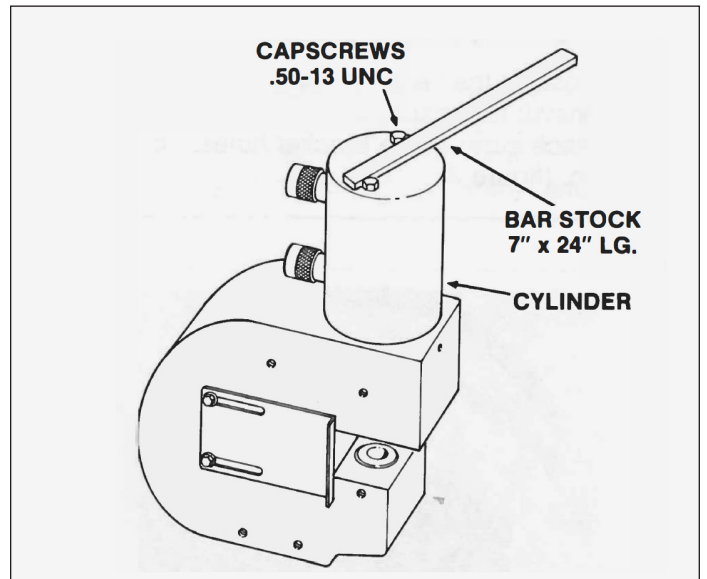

Figure 7
- c. Removing the cylinder from the punch frame requires a strap wrench or similar device to loosen the cylinder. Turn cylinder counterclockwise to remove it. If a wrench is not available, install 2 - .500-13UNC x 1½" lg. capscrews into the holes on top of the cylinder. Position a bar (approx. 2 ft. long) between the capscrews and turn to loosen (figure 7).
- (1) Extend the cylinder plunger. The key on the plunger must mate with the frame bearing keyway.
- (2) Look into the frame, determine keyway location. Align plunger key and install cylinder into the frame.
- (3) Thread cylinder completely into the frame. Cylinder couplers must face to the rear of the frame.
- (4) Install and tighten cylinder lockscrew in upper portion of frame front.